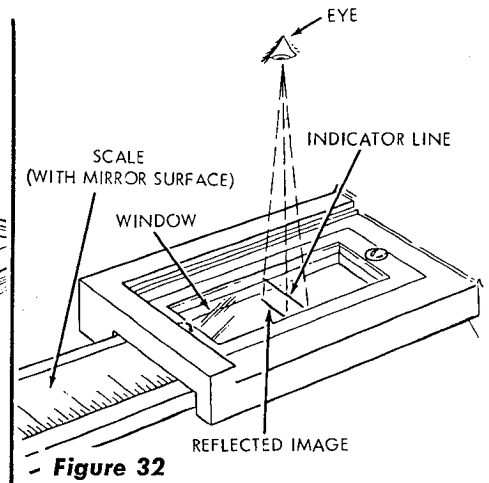

Figure 32
- (2) Position the rip fence on the right-hand side of the saw blade with the fence channel one-inch from the blade and lock the fence. Be sure to use one of the teeth bent (set) to the right of blade. Measure from this to the fence, since this determines your width of cut. This distance should be measured accurately with a scale.
- (3) Set the right-hand indicator (a scribed line in the plastic window) to "1" inch on the guide-bar scale. This is accomplished as follows:
- (a) A close look will show a reflection of the indicator line on the mirror surface of the guide-bar scale. In order to make sure that you are sighting squarely above the scale, move your eye until the indicator line and its reflected image coincide. (See figure 32.)
**NOTE:** When properly adjusted, the indicators may be used for most operations, thus eliminating the need for actual measurements except for extreme requirements. When sighting the indicator, always use the system shown in figure 32 in order to make sure the sight angle is correct.